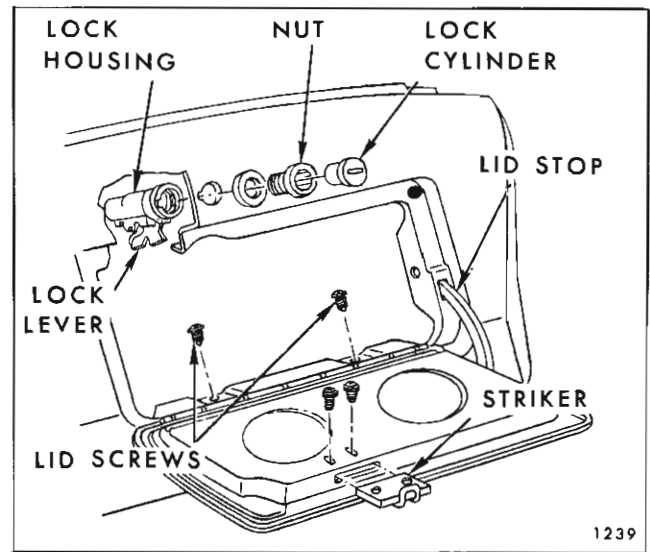

Fig. 2C17—Instrument Panel Compartment Door Assembly - 43-44000 Series
2. On 43-44000 series, with key removed and in unlocked position, open door, push locking lever forward to locked position, then working from the right side of the lock housing, insert 1/8" wire in slot of housing, depress tumblers of lock cylinder and remove lock cylinder. Remove lock retainer, by unscrewing retainer to housing and remove lock. (Fig. 2C17).